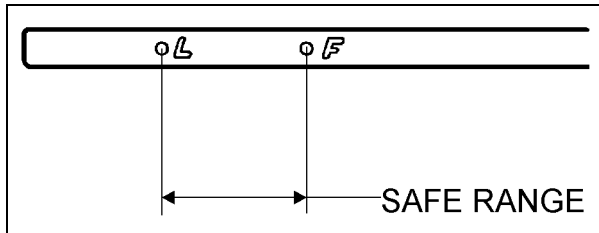

FIGURE 11: ENGINE OIL LEVEL DIPSTICK 01027
Check the oil level daily with the engine stopped. If the engine has just been stopped and is warm, wait at least 10 minutes to allow the oil to drain back to the oil pan before checking. Wipe the dipstick clean, then check oil level. The level should always be within the safe range on the dipstick (Fig. 11) . Add the proper grade of oil to maintain the correct level on the dipstick. All diesel engines are designed to consume some oil, so a periodic addition of oil is normal.
8. Remove the engine oil filler cap and pour oil in the engine until it reaches the "FULL" mark on the dipstick (Fig.11).
Add oil as required to bring the level within the safe range on the dipstick (Fig. 11).